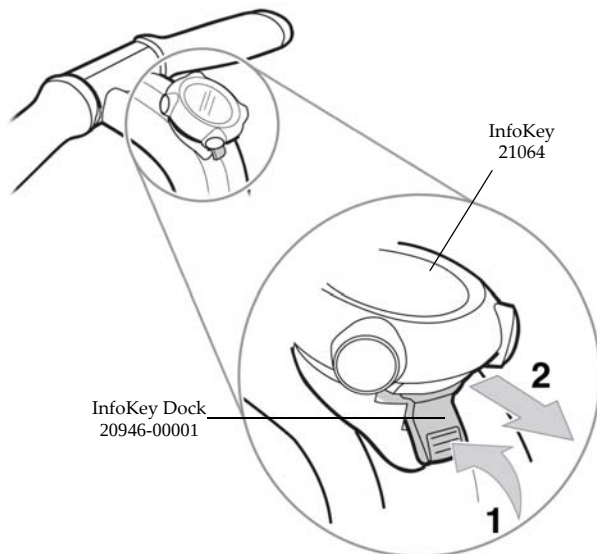

Figure 1-10: Remove Wireless InfoKey Controller
1. Press release tab at bottom of InfoKey Controller dock adapter. See **1** in Figure 1-10.
2. Slide Wireless InfoKey Controller out of Wireless InfoKey controller dock adapter. See **2** in Figure 1-10.
2. Place Wireless InfoKey controller onto dock adapter and slide into place until release tab (**1** in Figure 1-10) is engaged.